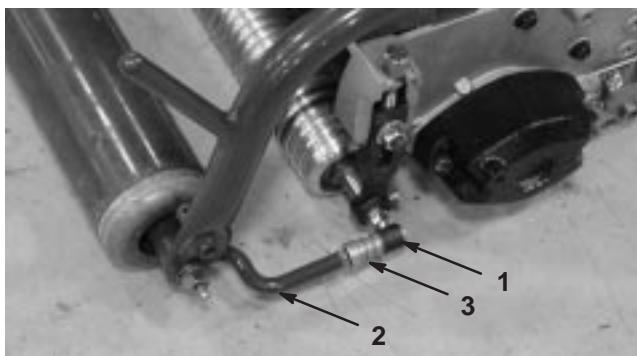

Figure 11
- Align the sockets in the ball joints so the open side of the socket is centered towards the ball stud. Tighten the jam nuts to secure the sockets in position (Fig. 11).